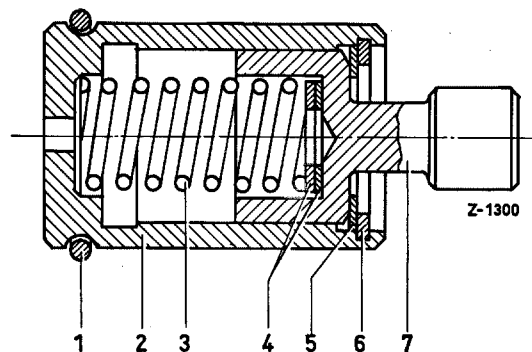

Figure 07-1/2
If the adjustment travel value is too high or too low, the position of the stop pin (7) in the spring capsule housing (2) should be varied by placing washers (5) between stop pin shoulder and lock ring (6) (see Figure 07-1/1).